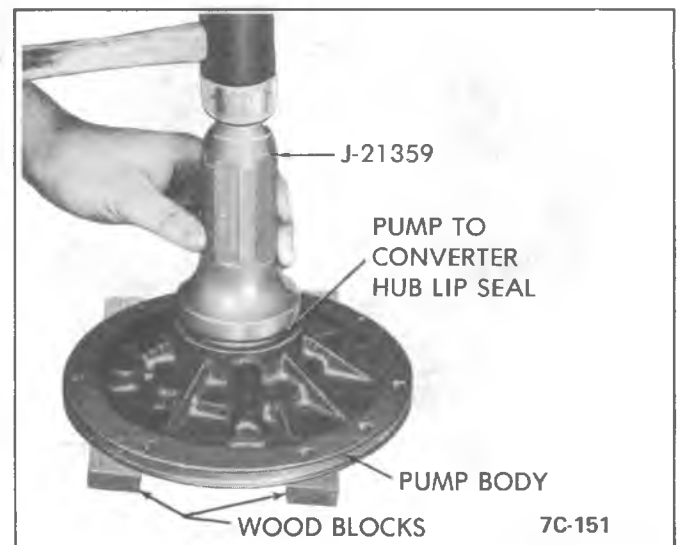

Figure 350C-73 Converter Seal Installation
2. Install cooler by-pass spring, check ball and seat. Using Tool J-23112, press seat into bore until top of seat is flush with face of pump body. See Figure 350C-74.